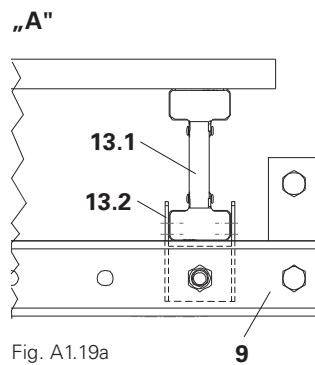

Fig. A1.19a
1. Connect Girder (13.1) and Platform Beam (9) using the Girder Fixation M20 (13.2) and Torx 6 x 40 (2x per side of the fastening). (Fig. A1.19a + A1.19b)